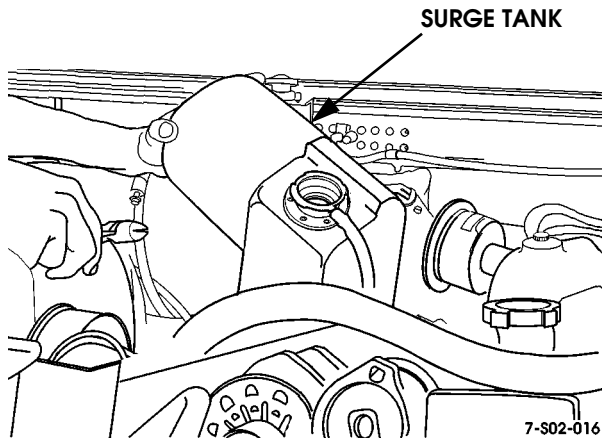

Figure 2-66: Surge Tank Removal/Installation
17. Remove surge tank (Figure 2-66).